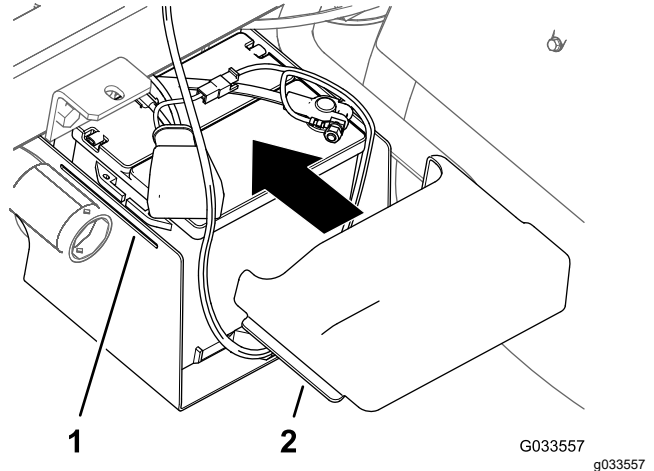

Figure 31
10. Squeeze the sides of the battery cover, align the tabs of the cover with the slots in the battery base, and release the battery cover (Figure 31).